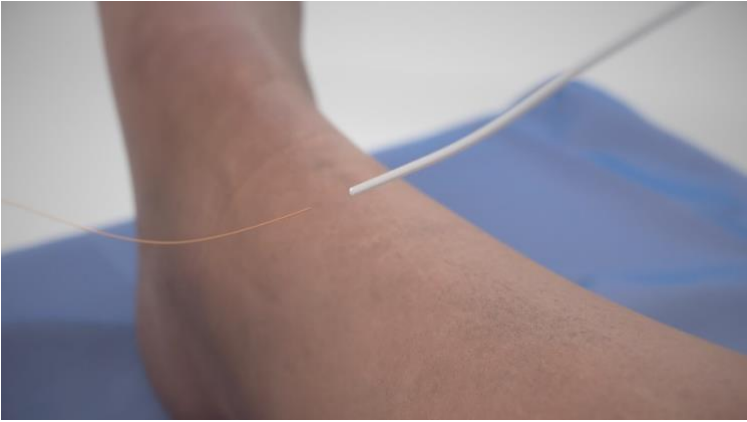

Figure 1
2. Connect the electrode array to the Receiver. (Figure 1)